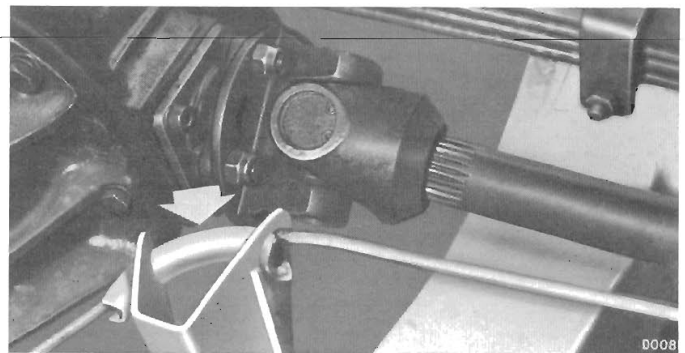

Fig. 24. Secondary cable guides
Lift off the compensating sector (24) and remove the cable by pulling it through the curved guides shown on Fig. 24.